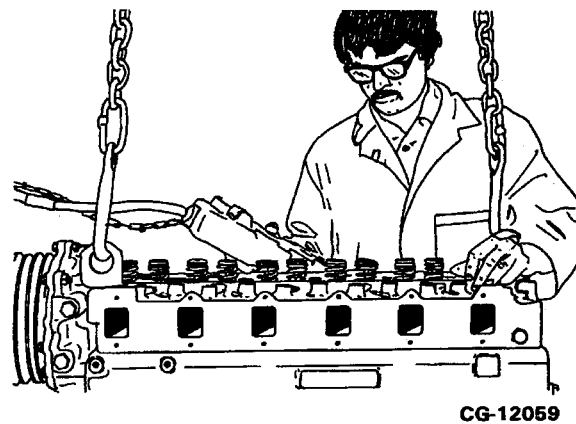

Figure 4.66. Install Cylinder Head onto New Gasket
4. Install a new cylinder head gasket over the "locating" dowel rings and gently lower the cylinder head onto the gasket. Refer to Figure 4.66.